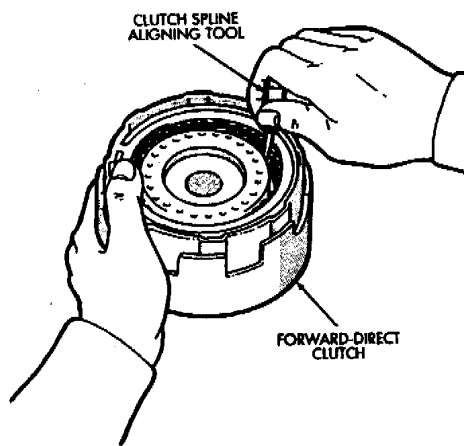

Fig. 26 Aligning Forward-Direct Clutch Splines
- (32) Verify ring gear race size. Outer diameter is 47.0 mm (1.850 in); inside diameter is 26.5 mm (1.045 in).
- (33) Align forward-direct clutch disc splines with screwdriver (Fig. 26).